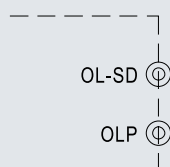

Fig. 5.1 Remove the CN3
- (1) Remove the shorting connector on CN3 that is shown in Fig. 5.1, the O.L.P mode will be "continuous constant current limiting"